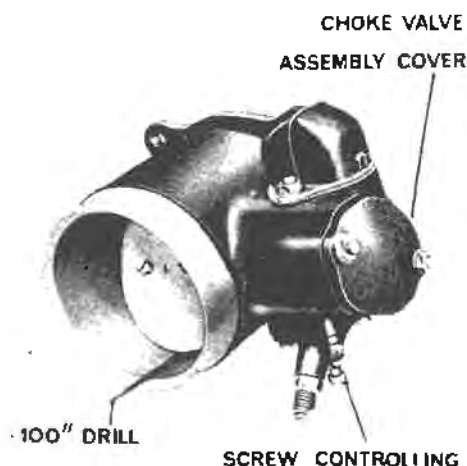

Fig. K.12.—Kick Diaphragm Adjustment.
- (ii) Kick action adjusted by stop screw to give .100" at top of choke valve (see Fig. K.12).